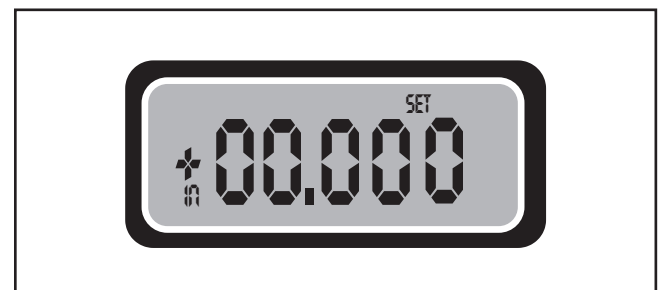

Figure 21. Initial SET mode screen.
1. Move the infeed table to the desired depth of cut. In ABS mode press ZERO, then press SET. On the screen SET will blink and "+" will appear (**Figure 21**).